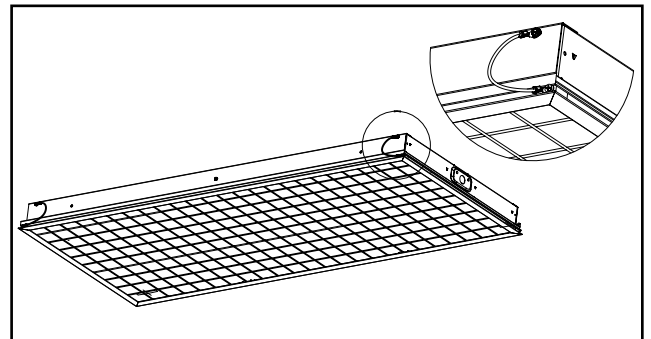

Figure 1.
1. Attach the free end of each door frame tether to the housing using the screw preset at each corner of the fixture housing, as indicated in (Figure 1.)